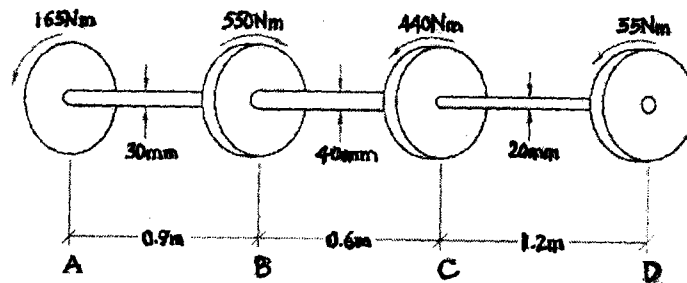

Figure 10/Gambarajah 10
- (iv) The solid shaft shown in **Figure 10**, is made of steel, determine the angle of twist in degrees between A and D ($G = 83 \times 10^3 \text{ MPa}$)